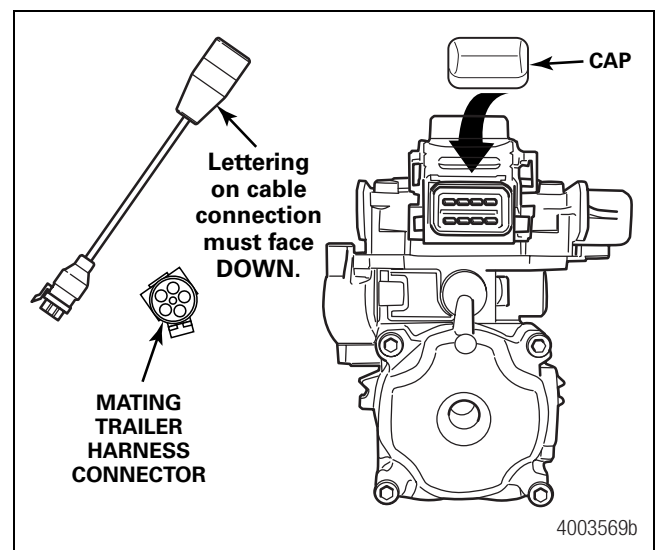

Figure 23
4. Push the hinged power/diagnostic connector retainer clip UP and remove the protective cap from the ECU/modulator valve assembly. Figure 23.
5. Plug the power 8-pin connector on the power or power/diagnostic cable into the ECU/modulator valve assembly. WABCO identification on the cable connection must face DOWN. Figure 23.
For industry-standard connector cables: Attach the power cable to the harness on the trailer. Figure 23.